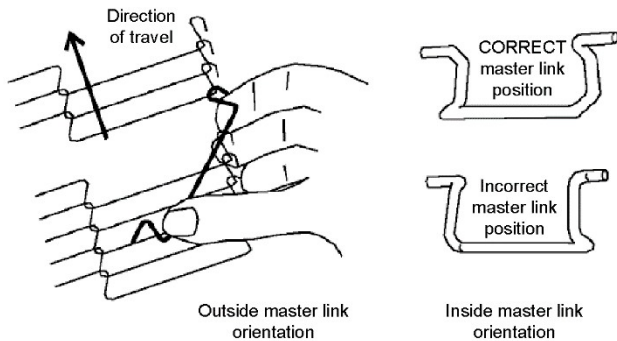

Figure 27. Conveyor and Master Link Orientation
- d. Replace the belt on the conveyor frame. Check that the conveyor belt links are oriented as shown in Figure 27, and that the smooth side of the conveyor belt faces UP.
- e. Connect the inside master links. Check that the links are oriented as shown in Figure 27.
- f. Connect the outside master links. Note that the outside master links each have an open hook on one side. This hook aligns with the hooks along the sides of the other conveyor links. See Figure 27.